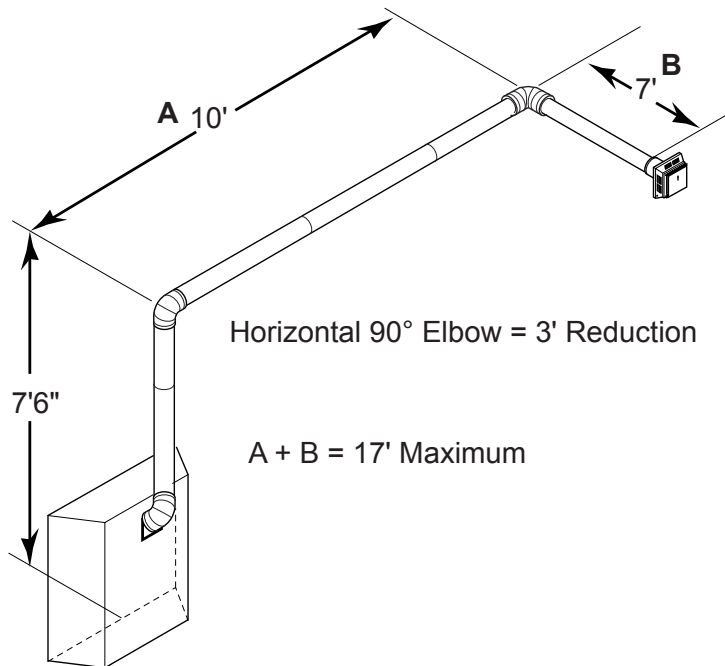

Figure 24 - Maximum Vent Run with Elbows
- If a 90° elbow is used in the horizontal vent run (level height maintained) the horizontal vent length is reduced by 36" (914 mm) (Fig. 21 A and B) This does not apply if the 90° elbows are used to increase or redirect a vertical rise. See Figure 24.